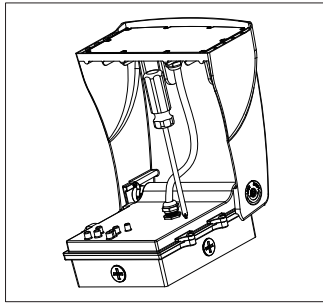
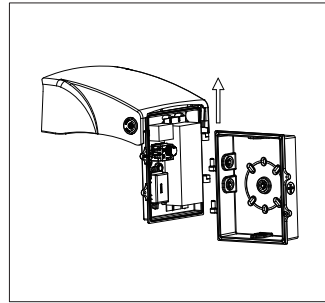

Figure 3
Figure 4
Step 2: Use a screwdriver to remove the screws on the driver box cover and separate the driver box from the front housing(Figure 3 & Figure 4);